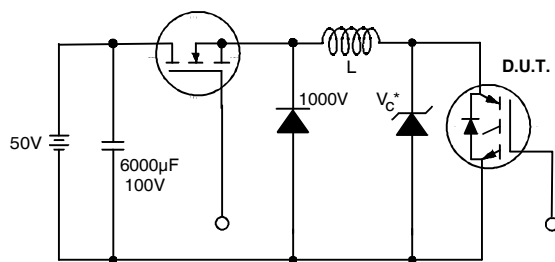

Figure 19. Clamped Inductive Load Test Circuit
- $V_{CC}=80\%(V_{CES})$, $V_{GE}=20V$, $L=10\mu H$, $R_G = 50\Omega$ (figure 19)